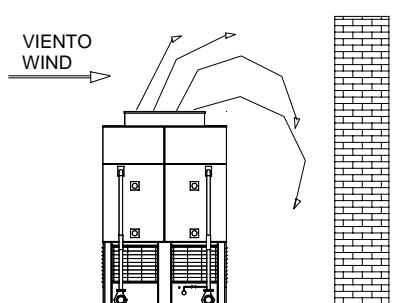

Fig. 1
*The first requirement is not to situate the equipment near any walls or other obstacles that are higher than the equipment itself (see figures 1 to 3). In the former case, the prevailing wind will push the air against the wall, causing part of it to be re-circulated.*